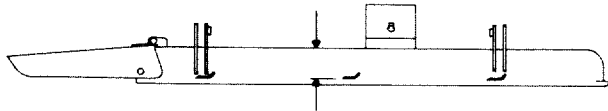

Figure 25
2. Rotate blade until the ends face forward and backward (Fig. 25). Measure from inside of cutting unit to cutting edge at front of blade (Fig. 25), and remember this dimension.